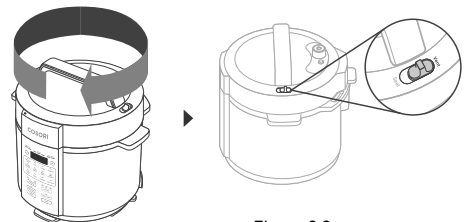

Figure 9.2
- Close the lid on the pressure cooker and turn clockwise to secure. Move the steam release switch to 'Vent'. [Figure 9.2]